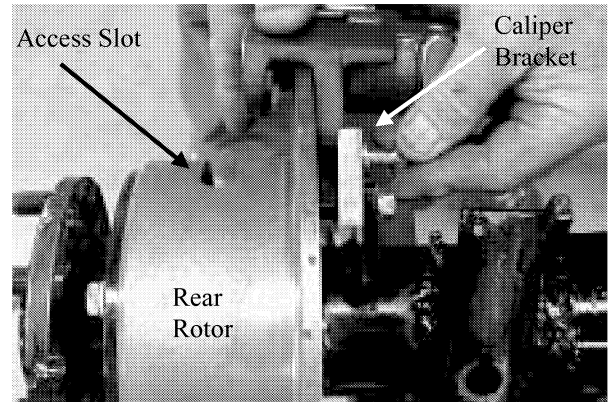

Figure 8 – Rear Rotor
- 7) Remount caliper to caliper mounting bracket. See Figure 8.